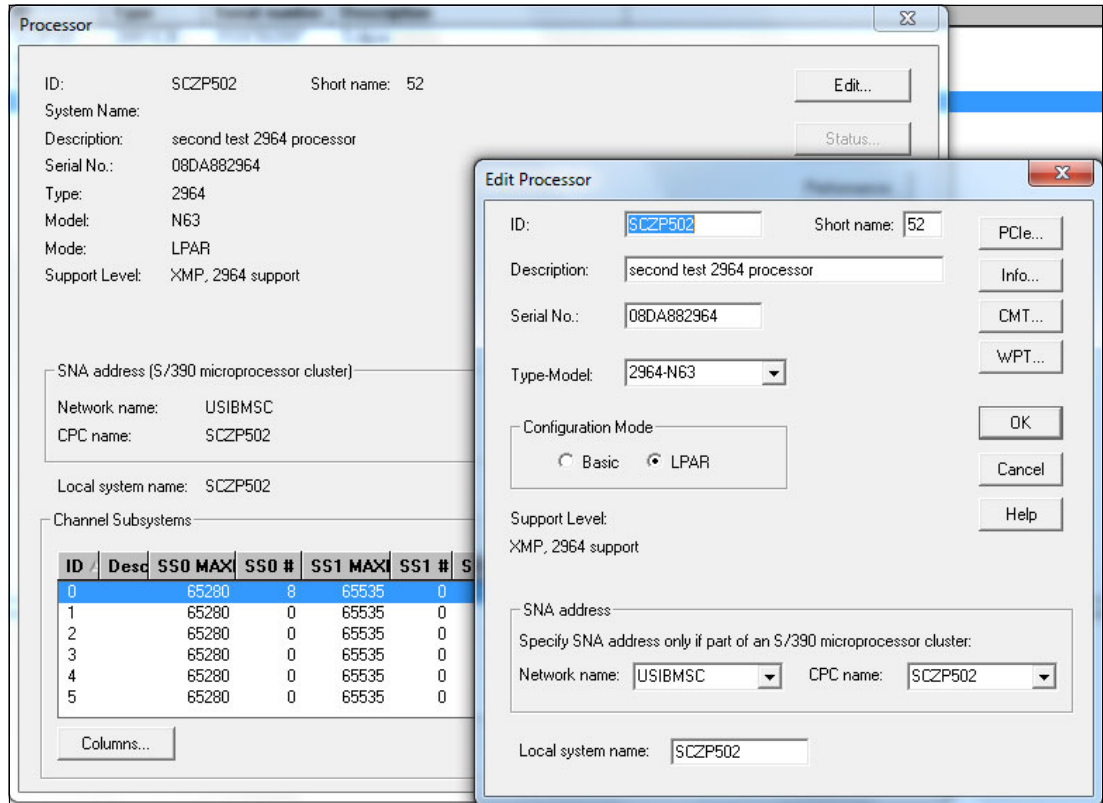

Figure 6-41 HCM - Edit Processor: PCIe functions
3. Click **Edit** → **PCIe** (Figure 6-41 on page 285).